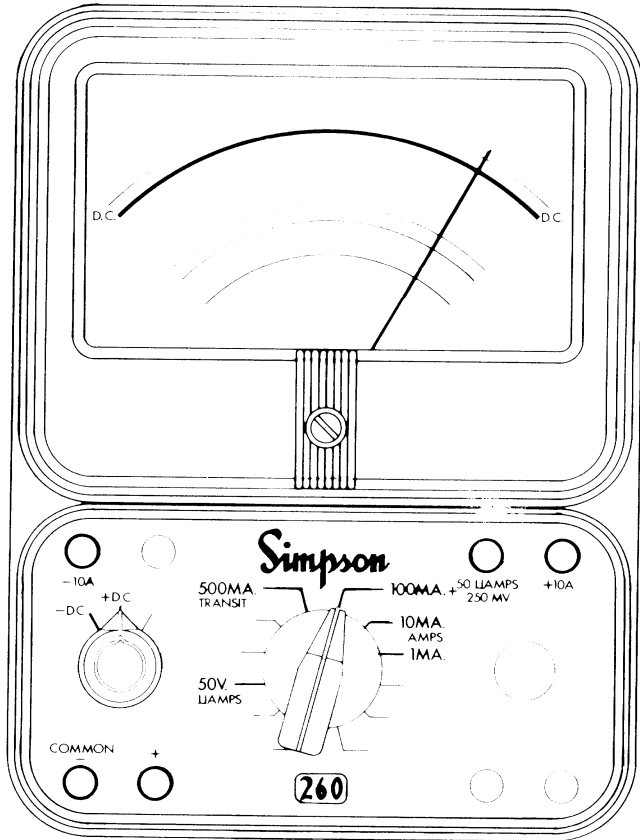

Figure 4-7. Jacks and Switch Positions for Measuring Direct Current
- a. Set the function switch at +DC (Figure 4-7).